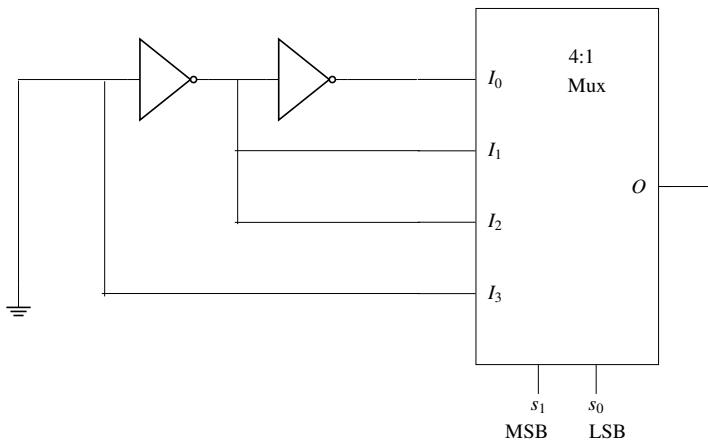

Fig. 3.28: Circuit Diagram
45. The Boolean operation performed by the following circuit in Fig. 3.28 at the output O is _____ (GATE IN2020 – 12)